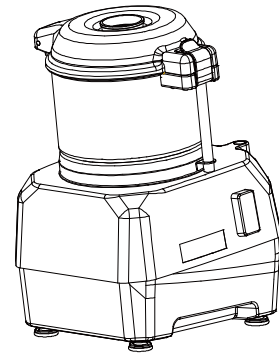

Fig.10
- \* Please refer to user manual for cutting bowl, do press the slider block to the bottom and lock the handwheel, as shown in Figure 10.